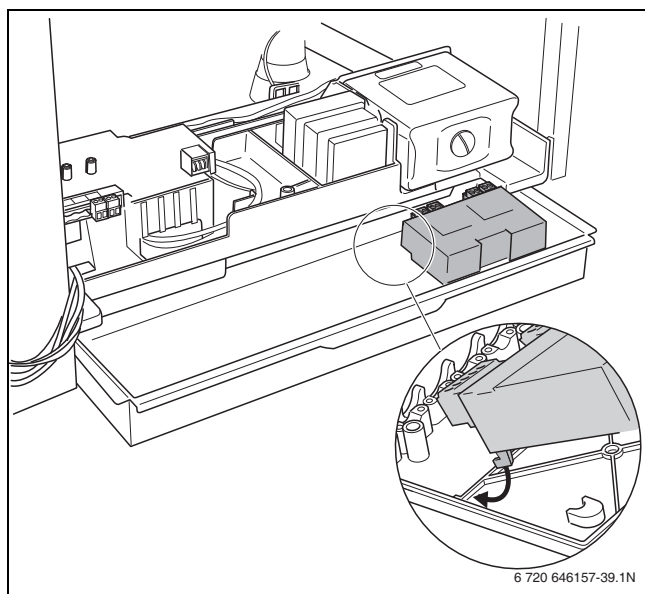

Fig. 43 Clicking the function module into position
- ▶ Click the function module(s) into position in the wall bracket (→ fig. 43).